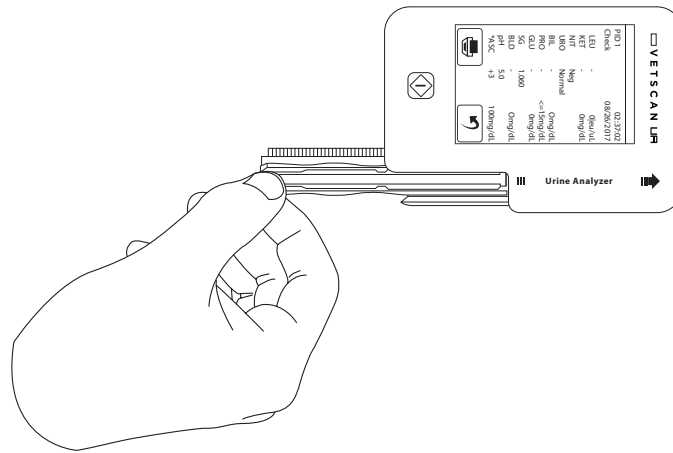

Fig. 17A
2. To clean the Strip Tray, first power on the UA analyzer. Remove the Strip Tray by grasping the upper right side of the tray (Fig. 17A). Lift up and gently pull Strip Tray (but not the Tray Carriage) in the direction shown (Fig. 17B). The Strip Tray should lift off easily.